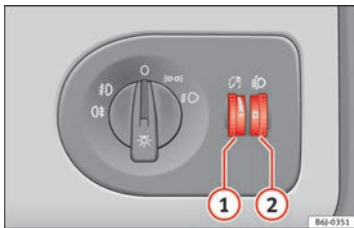

Fig. 62 Dash panel: regulation for instrument and switch lighting and headlight range control. ▶
When the headlights are switched on, the brightness of the instruments and switch lighting can be regulated to suit your requirements by turning the thumb wheel ⇒ Fig. 62 ①.